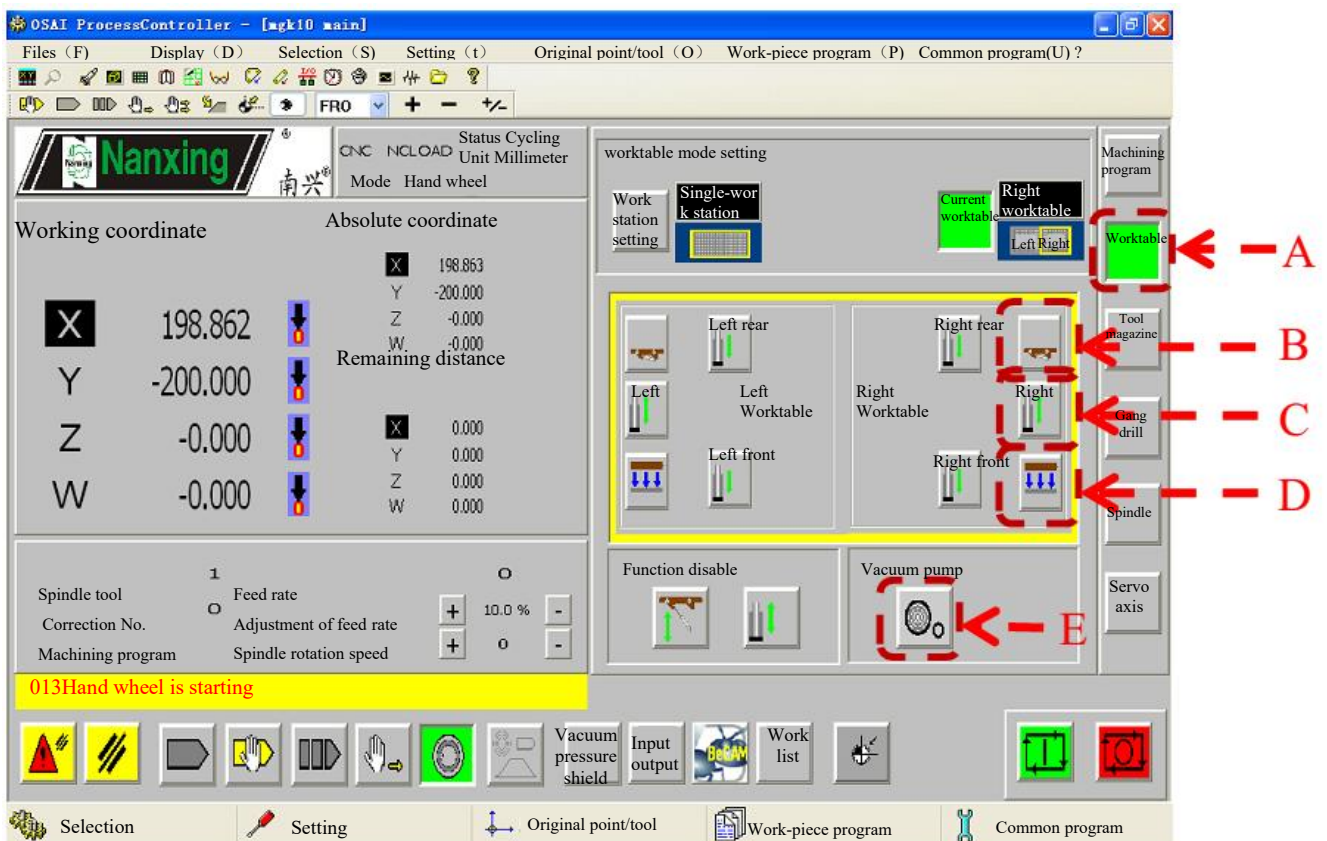

Fig.6.19
1. Click  to enter the interface of worktable manual control, as shown in Fig.6.19(A).
2. Click  to control the start-up and shut-down of side roof, as shown in Fig.6.19(B)
3. Click  to control the rise and fall of positioning cylinder, as shown in Fig. 6.19(C)
3. Click  to control the start-up and shut-down of vacuum adsorption, as shown in Fig.6.19(D)
4. Click  to control the start-up and shut-down of vacuum pump, as shown in Fig.6.19(E)